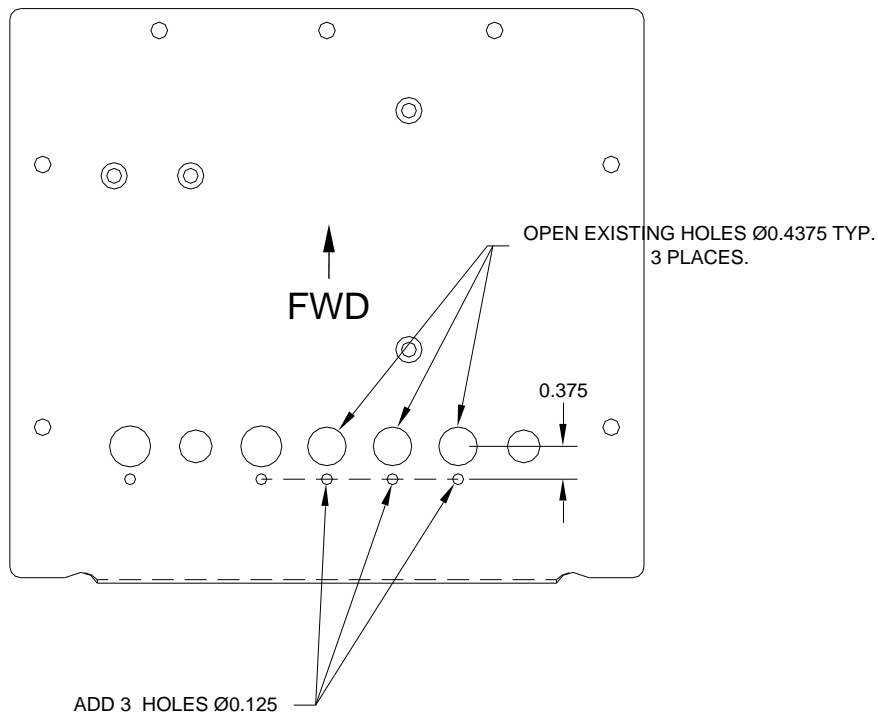

Figure 3 - Modification to Breaker Panel, viewed from above when fitted into aircraft
5. Modify the Breaker Panel as detailed in Figure 3. Each new breaker requires the existing mounting hole to be enlarged to 0.4375 inches diameter and the addition of a 0.125 inch diameter hole per location. Remove all swarf.